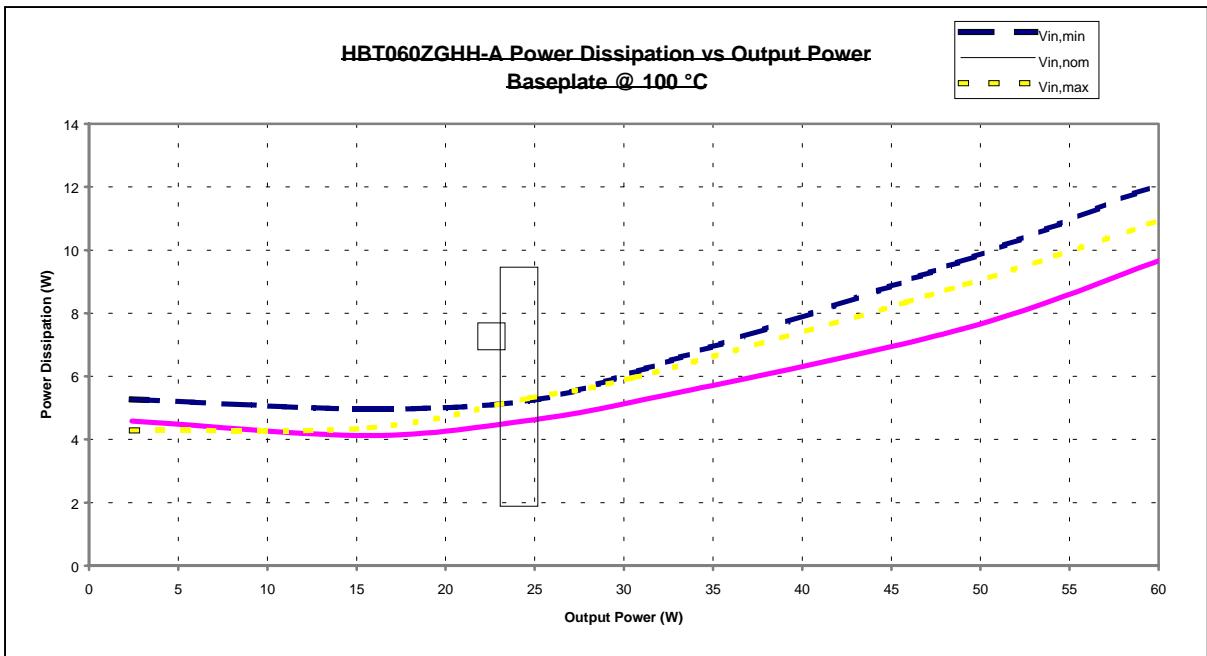

Figure 5. Power Dissipation vs. Output Power (substrate temperature maintained at 100 °C)
Step 1 (Determining P_D): From Figure 5, the maximum power dissipation is 12W (occurs at $V_{in} = 33V$)